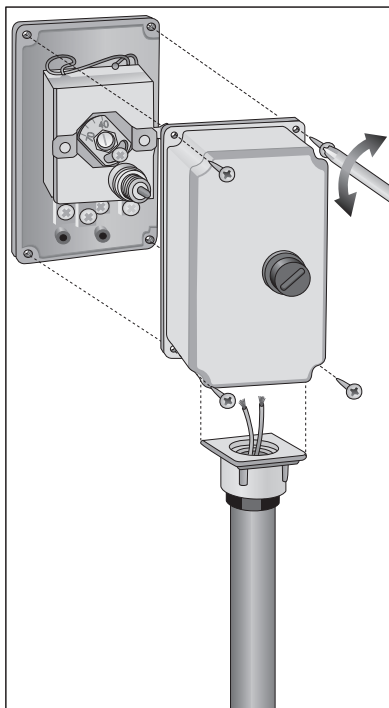

fig.5 - εικ.5
B) Remove the thermostat front cover by releasing the four provided screws. Thread the power supply wires in the relevant fairlead and connect them to the thermostat terminals (fig.5) according to the instructions of the following paragraph "Wiring Connections". Snap the front cover back.
Passez le câble de raccordement dans le presse-étoupe et raccordez les fils aux bornes (voir paragraphe "raccordements électriques"). (fig.5)